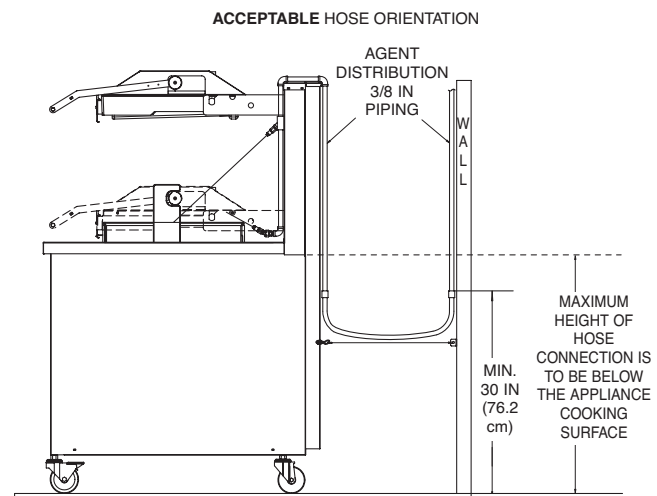

FIGURE 21
3. 3/8 in. schedule 40 pipe will need to be run from the hose connection to the distribution nozzle(s) installed/affixed to the appliance. Pipe must be installed and adequately secured at a height at or below the cooking surface of the appliance. (See Figure 21.)
- The Agent Distribution Hose should always be in a vertical natural loop, never having any bends greater than a 3 in. (7.6 cm) radius (6 in. (15.2 cm) diameter), hose twists, or sharp bends. (See Figure 21.) If any of these conditions exist, the hose and/or hose connections will require installation modifications.